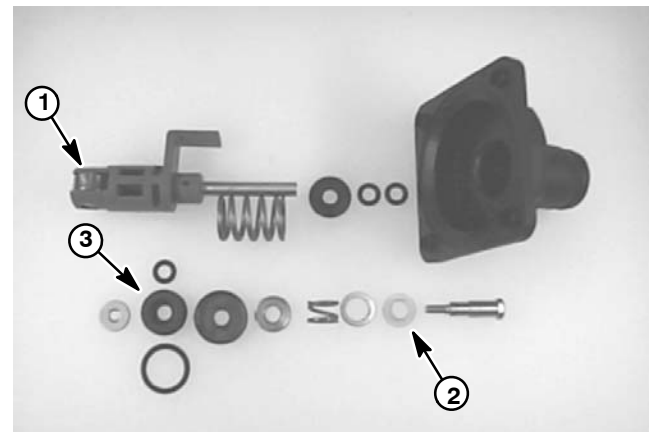

Figure 45
A. Remove the fork (item 29) that secures the motor and spindle sections to the manifold assembly.
3. To allow easier separation of the motor and spindle sections, make sure that boom valve motor is in the closed position (green indicator is recessed into the spindle housing). Remove four phillips head screws (item 15) and separate spindle section from motor section.
5. Inspect and disassemble spindle section (Fig. 45).